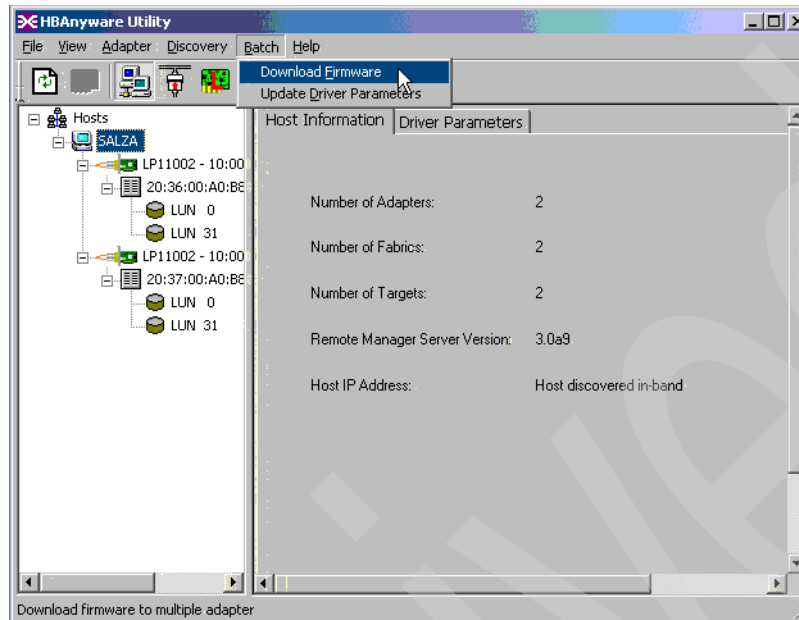

Figure 24-40 Emulex - HBAnyware - Download Firmware
9. You can update the firmware and boot code of an Emulex HBA using a boot diskette, or with HBAnyware. Download the latest Emulex HBA firmware and boot code from the IBM Support Web page and extract it to your hard drive. In HBAnyware, select the host and select **Batch** → **Download firmware** from the menu bar (Figure 24-40).